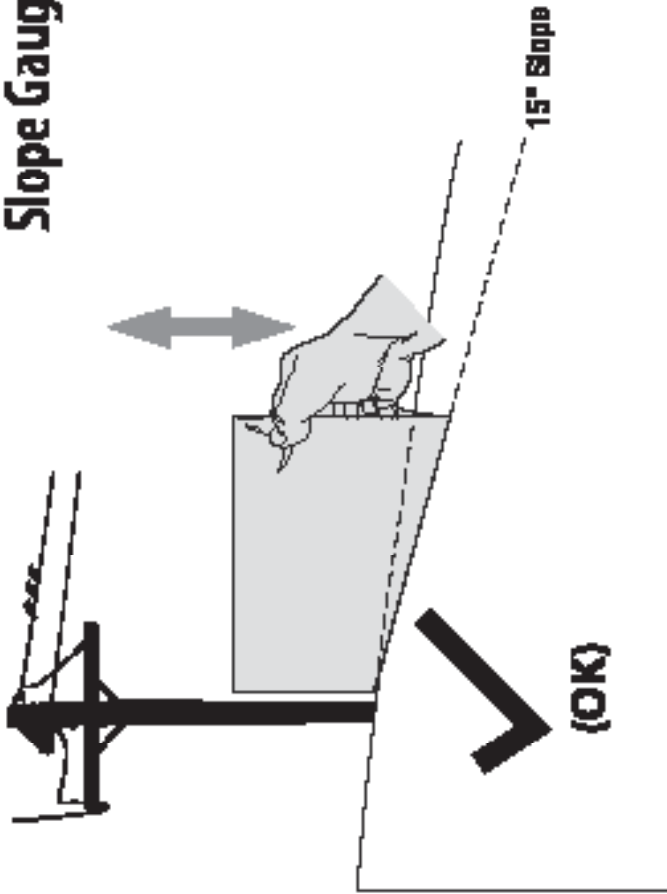
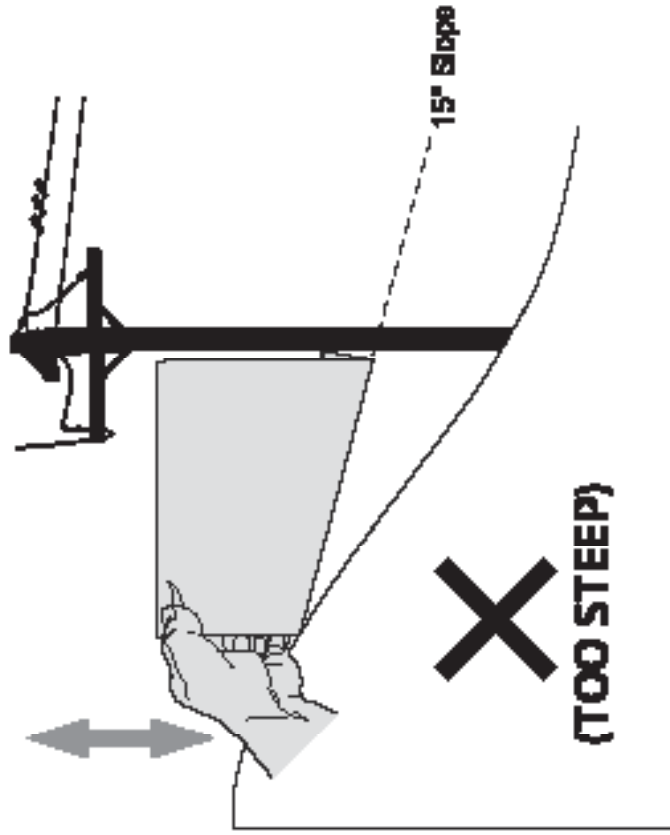

Figure 1
Figure 2
3. Align the other side of the slope gauge with the object (See Figure 1 and Figure 2).
4. Adjust gauge upwards until the left corner touches the slope (See Figure 1 and Figure 2).
5. If there is a gap below the gauge, the slope is too steep for safe operation (See Figure 2 above).